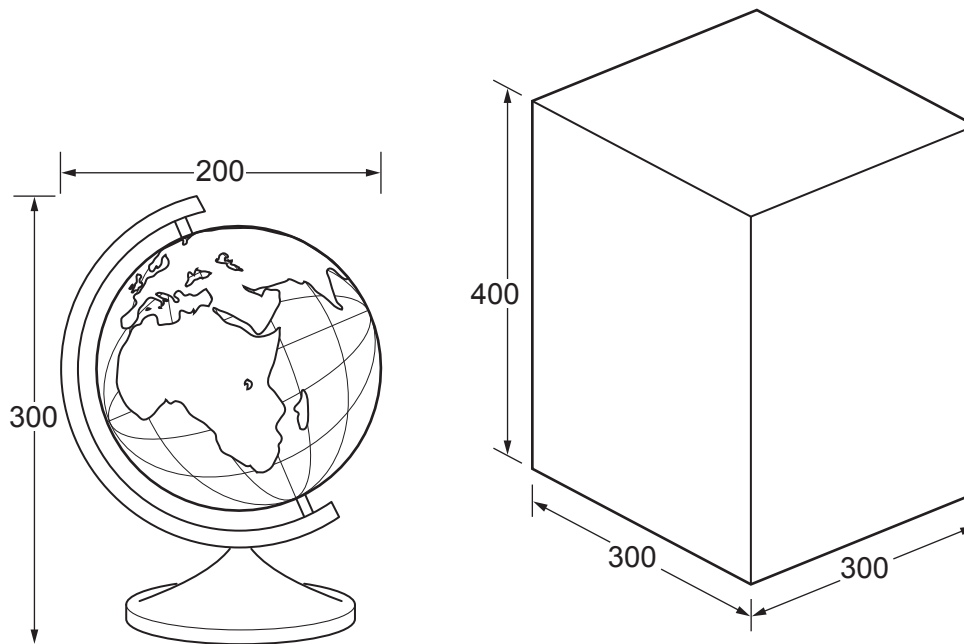

Fig. 9.1
- 9 Fig. 9.1 shows an incomplete idea for a cardboard box to package a child's globe. The box protects and markets the product.